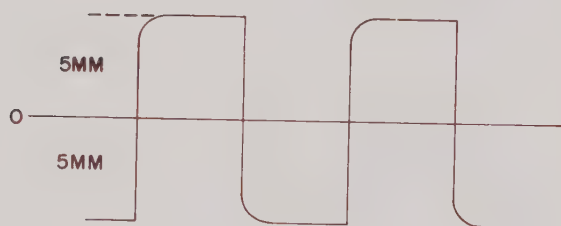

Figure 4-1A Pen Response, Damping Set at 110% of Critical
NOTE: Figures 4-1A and 4-1C show the overshoot characteristics for the extremes of the damping control, that is at approximately 30% (CCW) and 110% (CW) of critical damping.